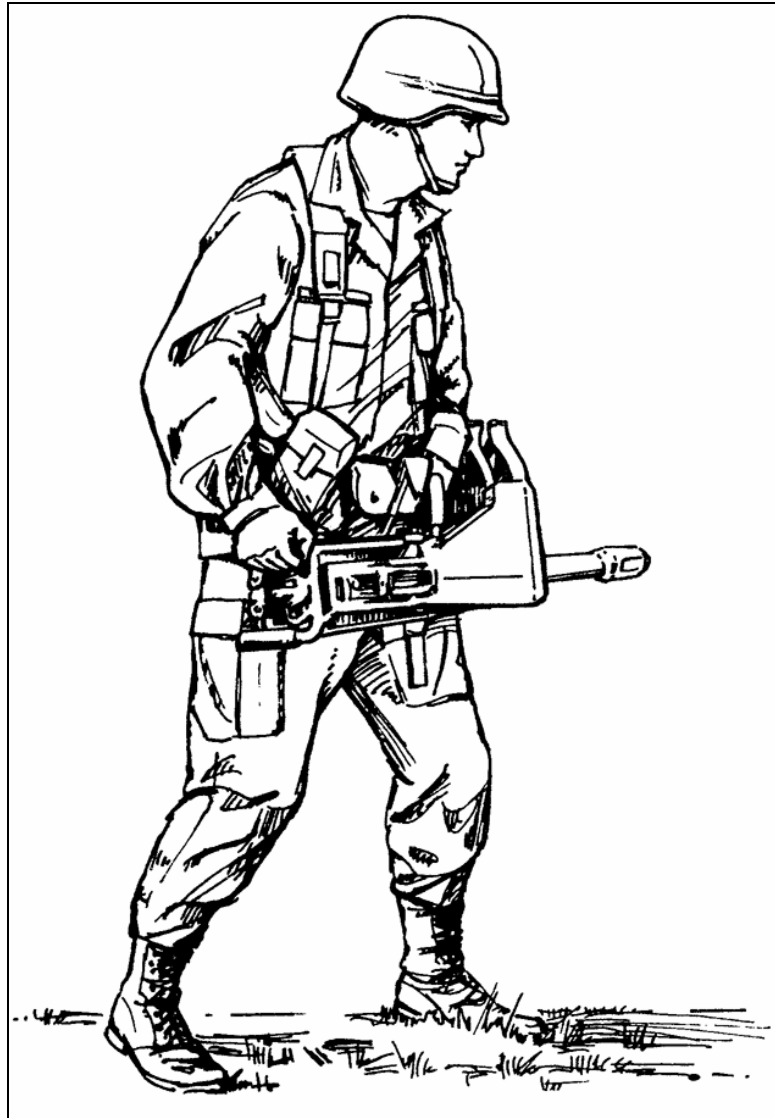
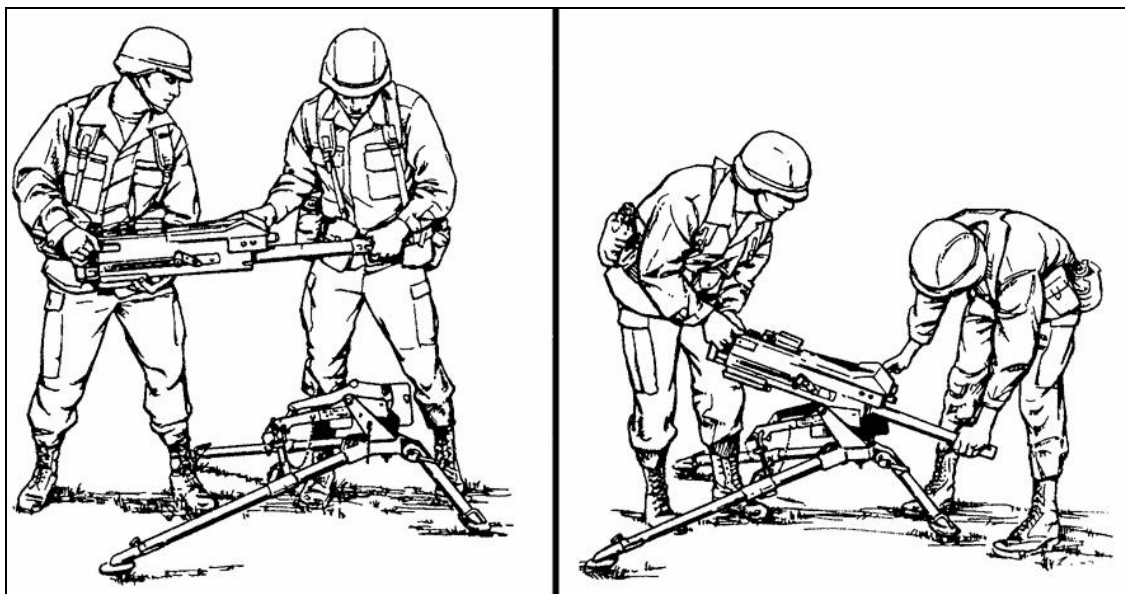

Figure H-5. Gunner moving into position.
Figure H-6. Placing the MK 19 in the cradle.
- (1) Carries the MK 19 receiver to the tripod, with the barrel in his left hand, and the control grip in his right hand (Figure H-5).
- (2) At the tripod, the assistant gunner grasps the barrel while the gunner holds the grips.
(3) The gunner and assistant gunner align the grooves on the receiver with the lugs in the gun cradle, and slide the receiver forward (Figure H-6).